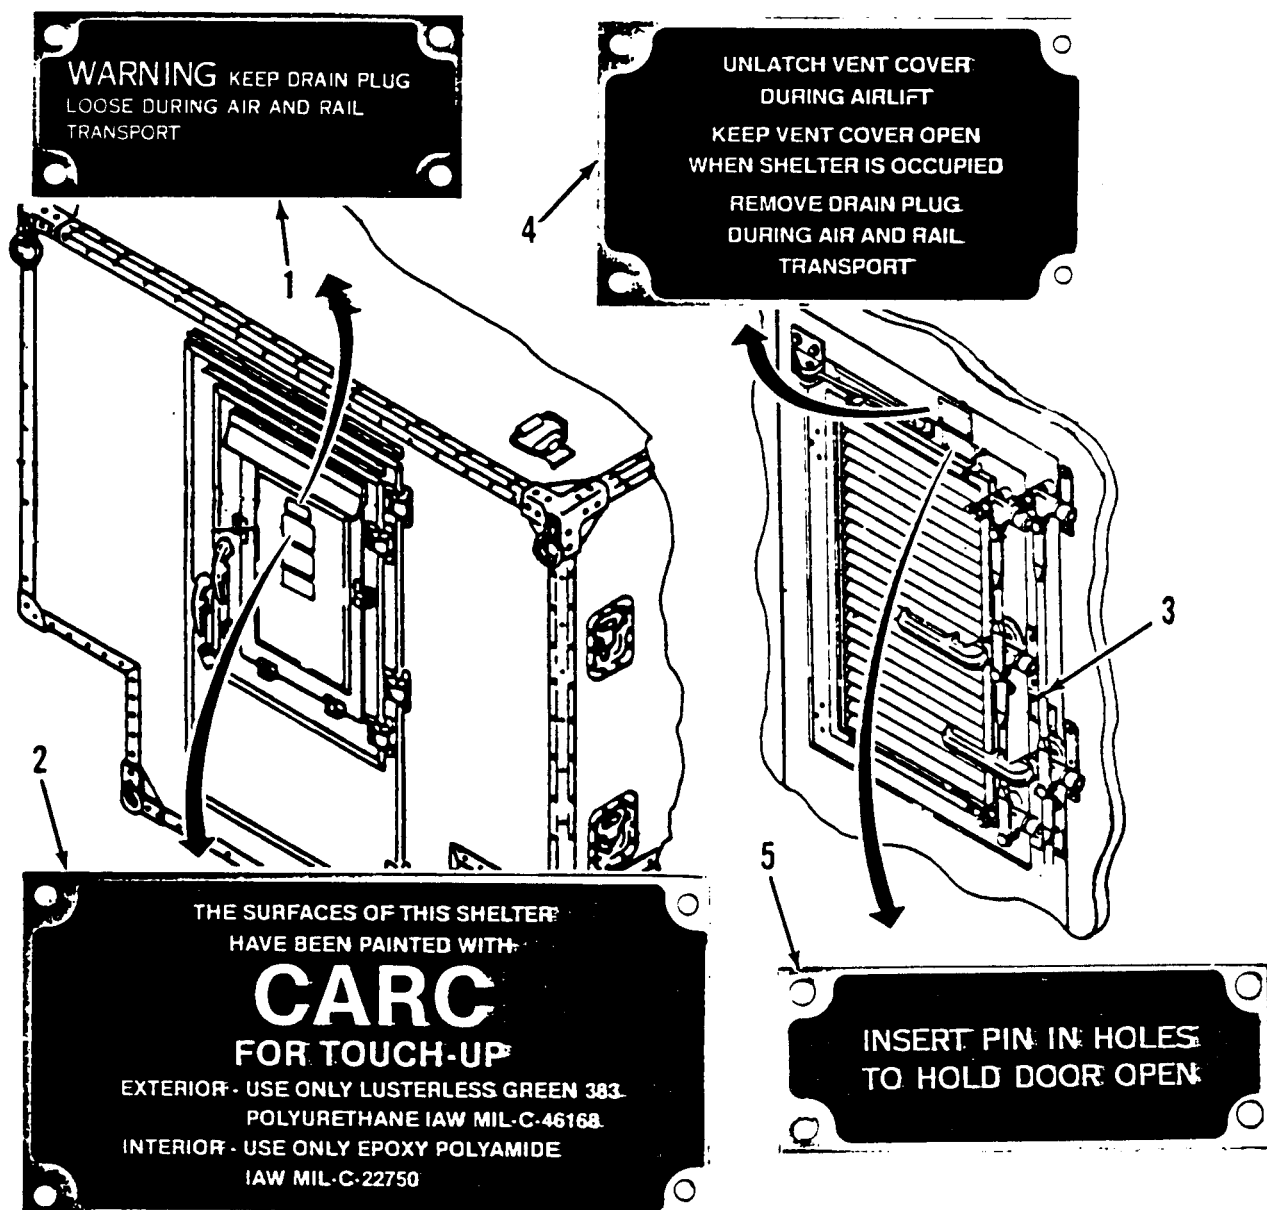

Figure 1-3. Instruction and Warning Plates.
**1-12. Instruction and Warning Plates.** (Figure 1-3)